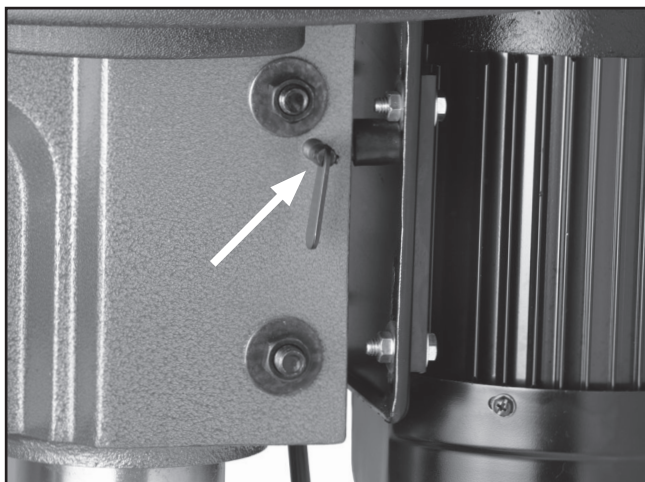

Figure 19. Motor lock screw.
2. Loosen the motor lock screw (shown in **Figure 19**), so the motor is free to pivot.